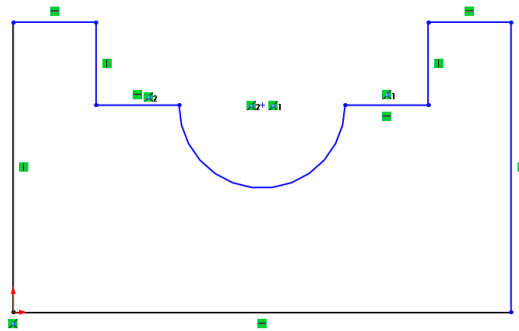

Figure 2-64 Final sketch for Tutorial 2
18. Press the F key to modify the drawing display area. The final sketch for Tutorial 2 with the grid display and the **Shaded Sketch Contours** settings turned off is shown in Figure 2-64.